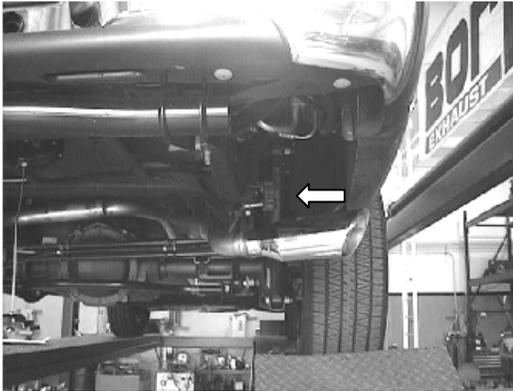

Figure 7
6. Place clamp over expanded end of left and right tail pipe assembly and install into position. Install hangers into rubber brackets as shown in figure 7.